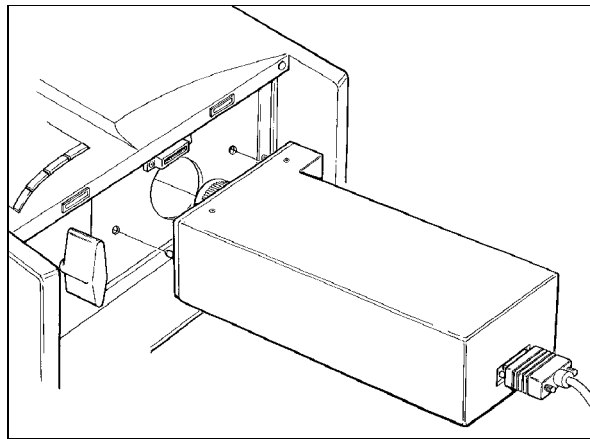

Figure 5-31. Attaching the alignment camera
1. Remove the photosensor from the ProPalette unit and install the alignment CCD camera (Figure 5-31) when directed by the on-screen instructions.